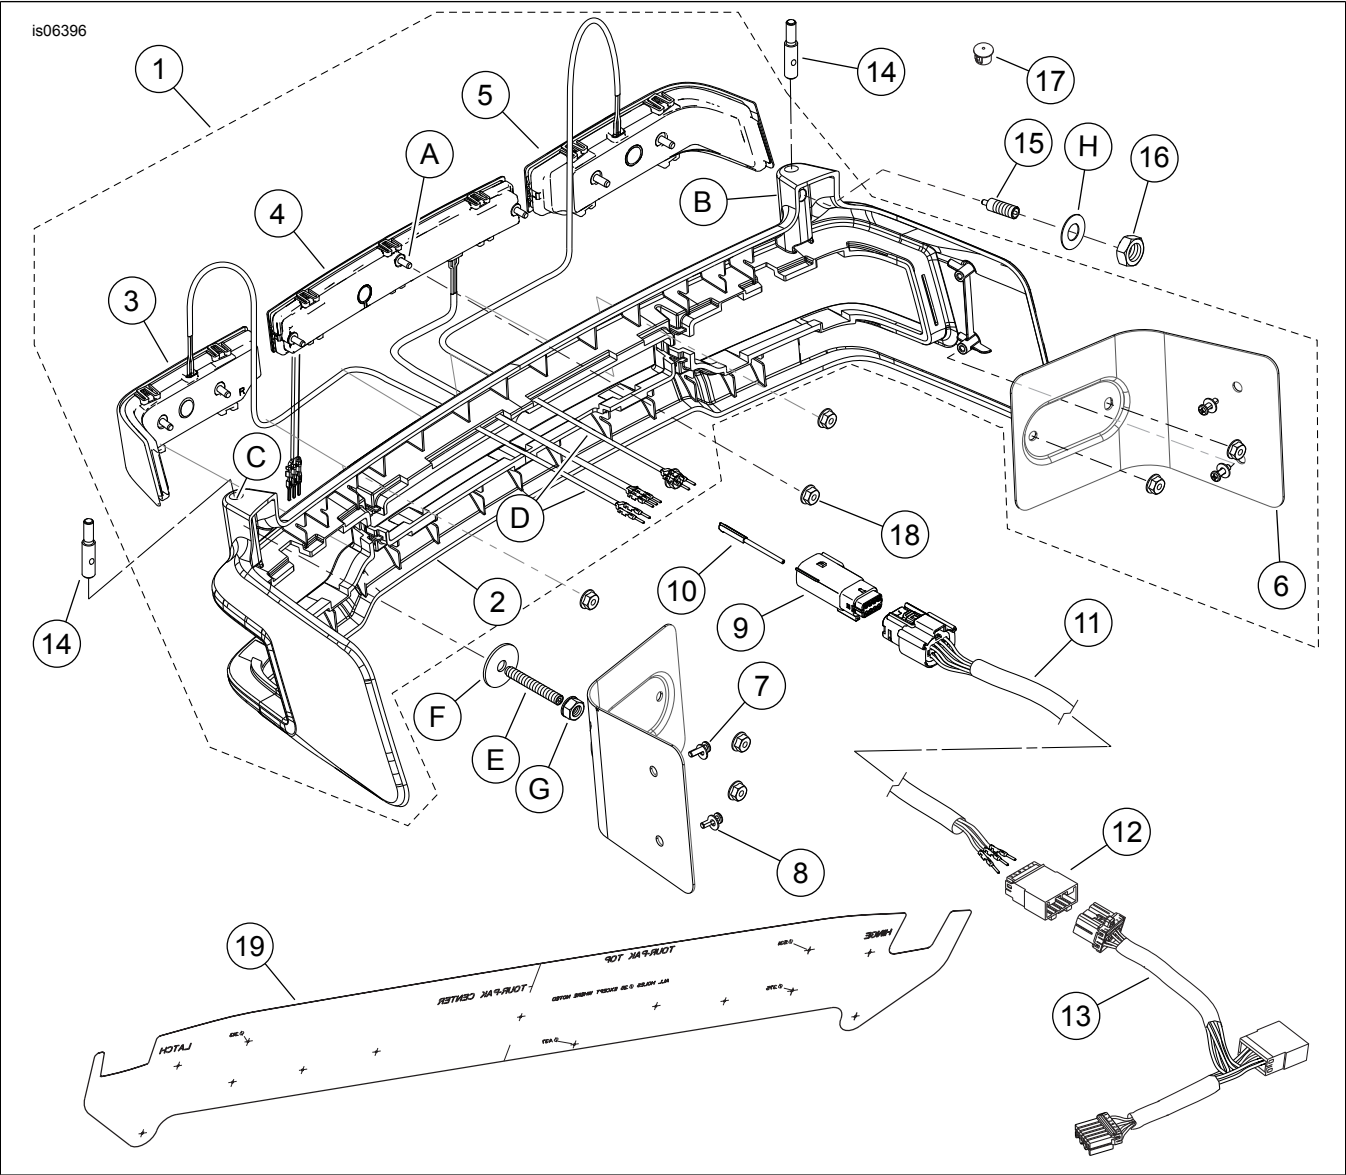

Figure 3. Service Parts, Tour-Pak Wrap-Around LED Light Kits
See Figure 3 and Table 1.
5. See Figure 3. Apply a small amount of silicone sealant around the base of the seven threaded studs (A) on the back of the LED Wrap-Around Light assembly (1) to prevent water leakage into the Tour-Pak.